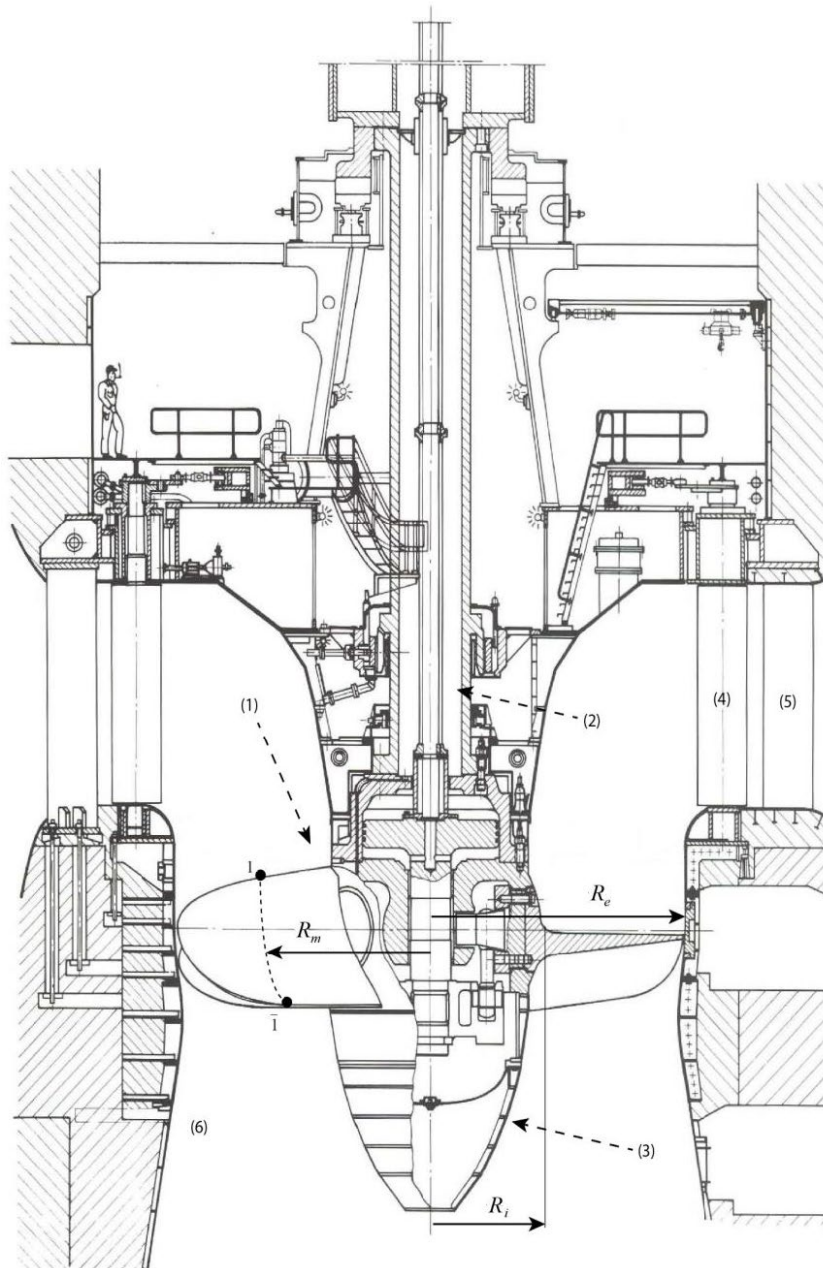

Figure 1 – Kaplan turbine unit - Gezhouba power plant.
The Gezhouba power plant is located in the Hubei province, China (the frequency of the electrical grid is equal to $f_{grid} = 50$ Hz). It is equipped with 2 Kaplan turbines of 176 MW and 5 Kaplan turbines of 129 MW. In this problem, we will investigate the 176 MW units. A cut-view of the Kaplan unit is given in Figure 1.
1. Name the components in Figure 1: